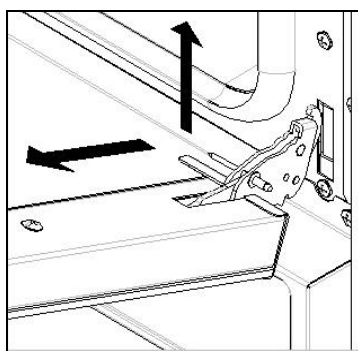

Fig. 5
- lift the door gently and withdraw it (Fig. 5);